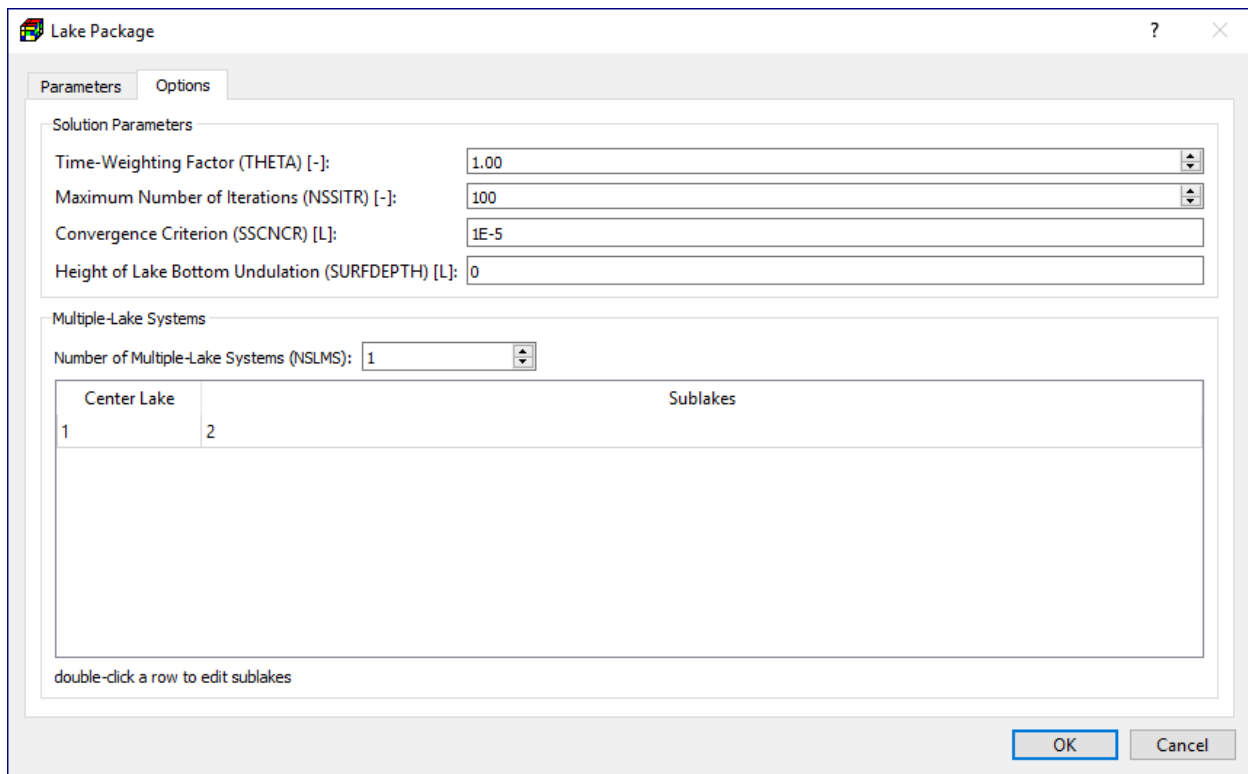

Figure 72. The Options tab of the Lake Package dialog box
- **Options Tab** (Figure 72)
- **Table:** Each row of the table in Figure 72 represents a multiple-lake system. The Center Lake column lists the lake identification number of the center lake of the system; the Sublakes column lists the lake identification numbers of sublakes of the system. Double-click a row to edit the multiple-lake system in the Multiple-Lake System dialog box (Figure 73). The items of the dialog box are as follows: